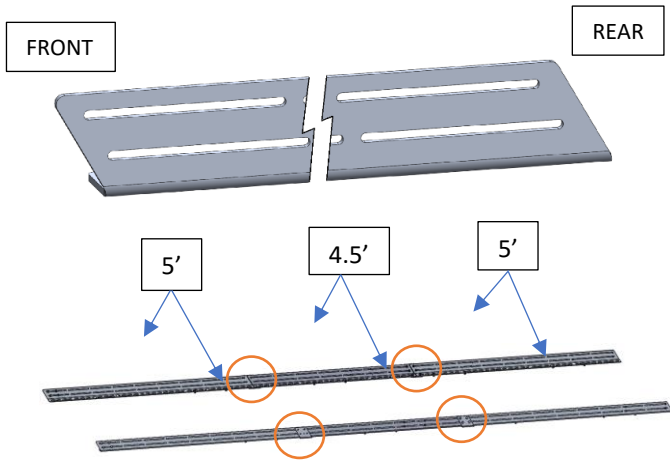
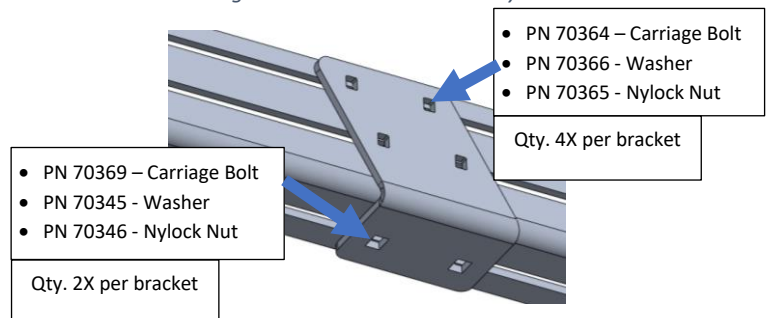

Figure 1: Side Rail Subassembly
Figure 2: Side Rail Bracket Hardware Installation
1. Using the associated carriage bolts and side rail brackets, connect the front and rear side rails together. Reference Figure 1 & Figure 2 for